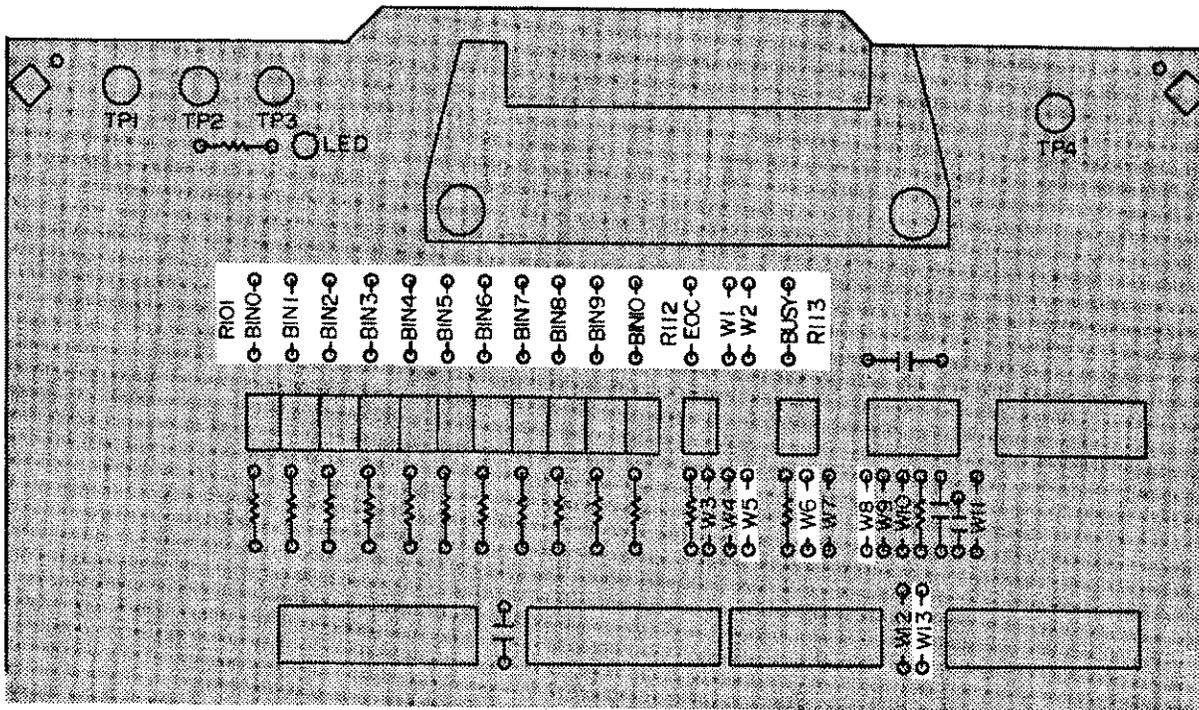

Figure 4-26. Palomar M16 Jumper and Pull-Up Resistor Locations
1. Configure the following interface signals by installing the jumpers as shown in Figure 4-26.
2. All I/O signals are TTL level so you must install all pull-up resistors to + 5V ( install pull-up resistors **R101 ~ R113** ). Refer to Figure 4-26 for the pull-up resistor locations.
3. Bring + 5V out through pins 12 and 17 of the handler interface rear panel connector ( install a jumper at **W1** for + 5V and at **W2** for the **COMMON** connection ). Refer to Figure 4-26 for the locations of **W1** and **W2**.